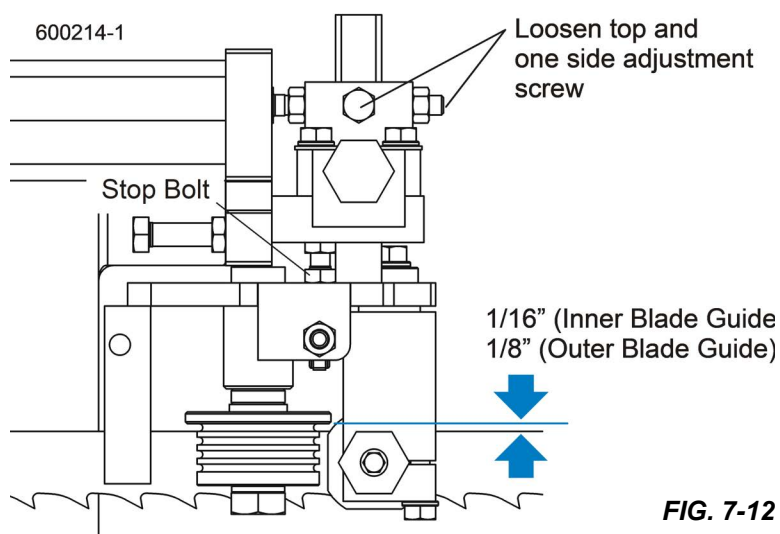

FIG. 7-12
1. Swing a side support down and measure between the face of the support and the main bed tube. See FIG. 7-12.